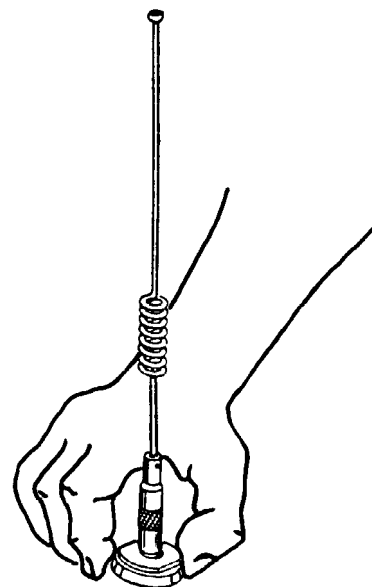

Figure 9.
8. Refet to Figure 9. Slide the metal cap (coupling nut) over the antenna rod assembly until it is in place over the plastic insulator of the whip assembly. Put the whip assembly in place over the locking nut and secure the metal cap to the external threads of the locking nut. With the antenna rod in a perfectly vertical position, tighten the metal cap *by hand* as tight as possible. Then, with 10" adjustable wrench or a 1" open end wrench, tighten no more than an additional 1/2-turn.